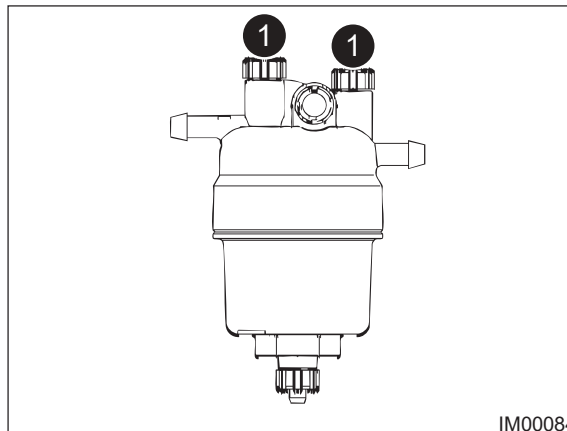
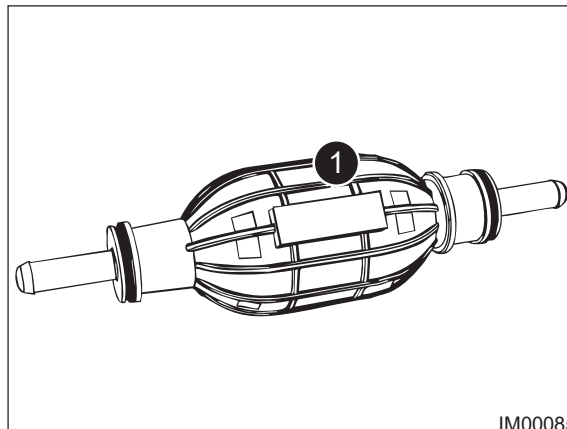
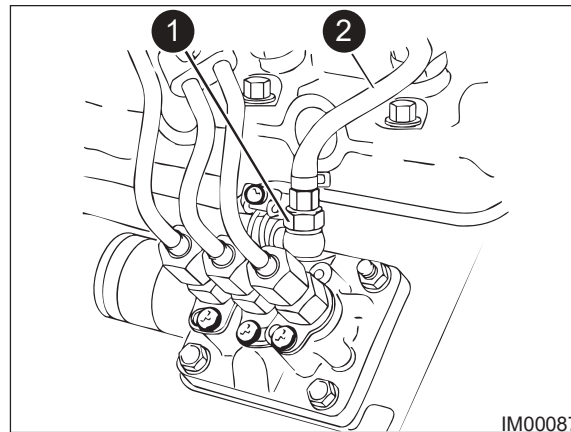

Fig: 11.22 - Primary Filter
Fig: 11.23 - Priming Pump
Fig: 11.25 - Injection Pump
3. On the primary filter, open the vent screws (Items 1, Fig: 11.22).
4. Operate the hand priming pump (Item 1, Fig: 11.23) until fuel free from air comes from the vent screw. Then close vent screws (Items 1, Fig: 11.22) by hand.
6. Operate hand priming pump (Item 1, Fig: 11.23). When fuel free from air flows from the vent screw tighten the vent screw.
7. Loosen the connection (Item 1, Fig: 11.25) at the fuel injection pump.
- ◇ Fuel return line (Item 2, Fig: 11.25) may need to be removed to prime the fuel system.
8. Operate the hand priming pump (Item 1, Fig: 11.23). When fuel free from air flows from the connections tighten the connecting bolt (Item 1, Fig: 11.25).